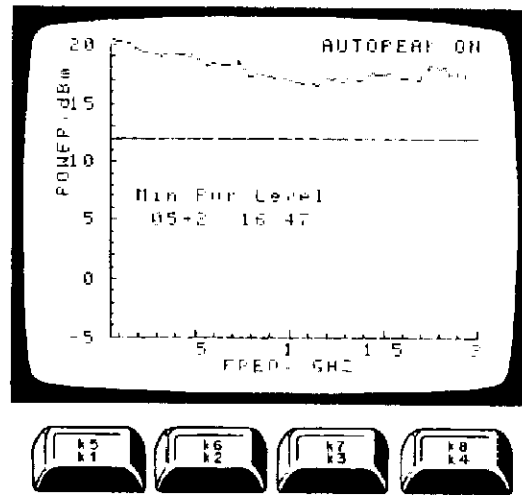
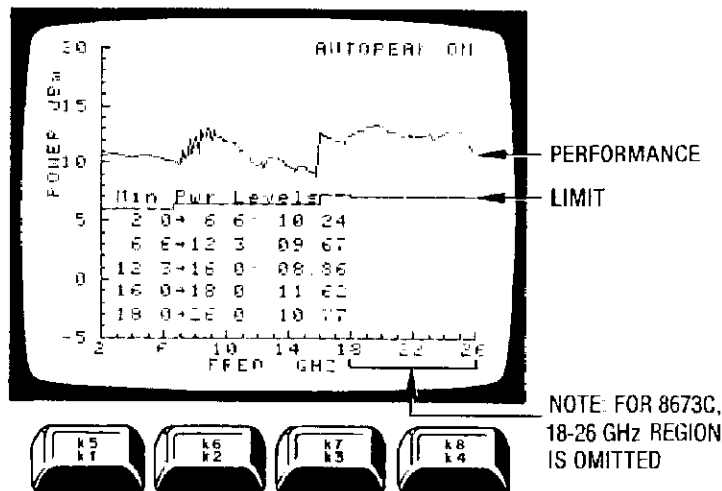

Figure 5-34. Low Band Maximum Power
Figure 5-35. HP 8673D Maximum Power with K-Band (16—26 GHz) Amplifier
8. After the adjustment is performed, press **[k5]** to run the HET maximum power test. For the HP 8673D also run the DWITH maximum power test by pressing **[k4]**. DWITH should be run in the NORMAL mode instead of BYPASSED. Autopeaker should also be on. Examples of each are shown in figure 5-34 and figure 5-35 respectively.